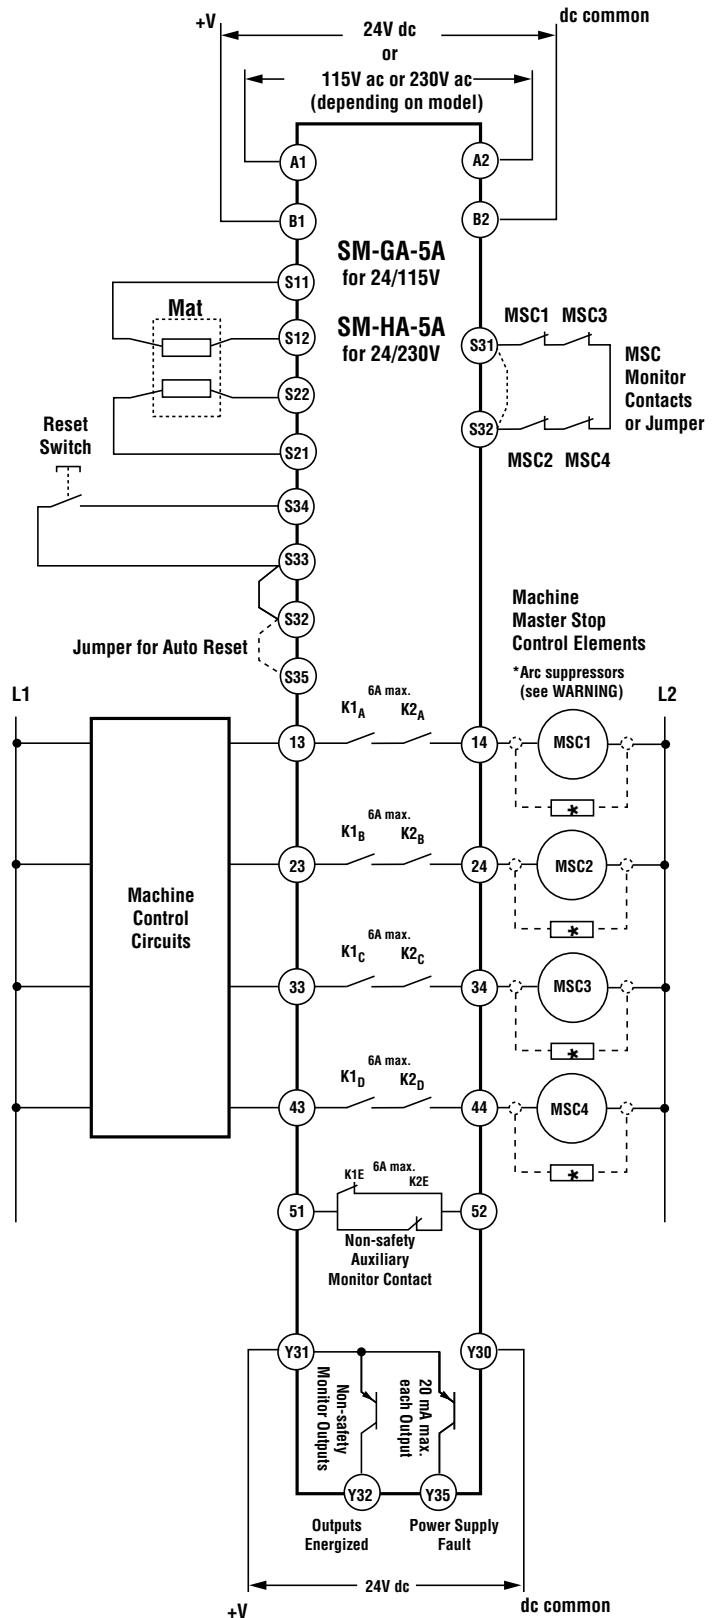

Figure 3. Typical SM-GA-5A/SM-HA-5A Safety Mat Monitor Module hookup to a 4-wire safety mat
To satisfy the requirements of Safety Category 4 of EN 954-1, the master stop control elements must each offer a normally closed, forced-guided monitor contact. One normally closed monitor contact from each master stop control element is wired in series to the S31-S32 feedback input (see Figure 3). In operation, if one of the switching contacts of either master stop control element fails in the shorted condition, the associated monitor contact will remain open. Therefore, it will not be possible to reset the Safety Module. If no MSC-monitor contacts are monitored, a jumper must be installed between terminals S31 and S32 (see Figure 3). **It is the responsibility of the user to ensure that any single failure will not result in a hazardous condition and will prevent a successive machine cycle.**
The hookup diagrams (Figure 3) show a generic connection of the Safety Module's four redundant output circuits to master stop control elements MSC1 through MSC4. A master stop control element is defined as an electrically powered device, external to the Module, which stops the machinery being controlled by immediately removing electrical power to the machine and (when necessary) by applying braking to dangerous motion. This stopping action is accomplished by removing power to the actuator coil of either master stop control element.
The Reset switch can be any mechanical switch, such as a normally open momentary switch, or a two-position key switch. The Reset switch must be capable of reliably switching 12-30V dc at 5-50 mA. As shown in Figure 3, the Reset switch connects between terminals S33-S34 of the Safety Module. In addition, connect a jumper wire between terminals S32-S33. See Warning at right.
There are two solid-state monitor outputs, each capable of switching up to 100 mA at 24V dc. One monitor output (terminal Y32) follows the action of the output circuits (K1 and K2); the other (terminal Y35) opens (low signal) when an internal power supply fault occurs. See Figure 3 for hookup information. External 24V dc power needs to be supplied to Y31 and Y30 to utilize the two solid-state monitor outputs.
The Module may be configured for Automatic Reset by removing the jumper between S32-S33 and connecting terminals S32 and S35 together (see Figure 3). In this case, no Reset switch is wired to terminals S34 and S33. The Safety Mat Monitor Module will reset (and its outputs energize) 250 ms after the operator steps off the safety mat. The 250 ms ON-Delay, in Automatic Reset mode, is intended to ensure that a reliable stop signal is issued if an individual steps lightly or quickly across the safety mat.
3. Apply input power to the Safety Mat Monitor Module at terminals A1 and A2 or B1 and B2 (see Figure 3). Verify that only the Power indicator LED is ON (see Figure 1).